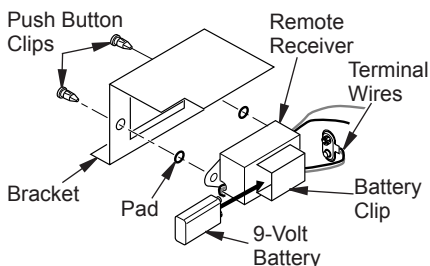

Figure 15 - Installing Remote Receiver
3. Install remote receiver into receiver bracket using pads and push button clips provided with receiver (see Figure 15).
2. Locate the battery clip mounted on the back of the receiver (see Figure 15).